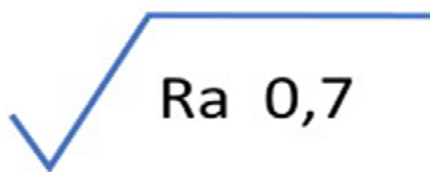

Figure 1. Specified parameter with its limit value.
Figure 1. Representative SEM images relative to the pin-on-disk wear tests on GHA specimens. The images are relative to analyses showing different mechanisms of wearing such as: delamination (A), three body (B), abrasive (C) and tribo-oxidative (D).
The specified parameter should be placed under the root symbol with, at the very least, its limit value (see figure 1 below). These parameters are defined in ISO 4287, ISO 13565 or ISO 12085. Many other indications are defined by default and can be omitted on the drawing.